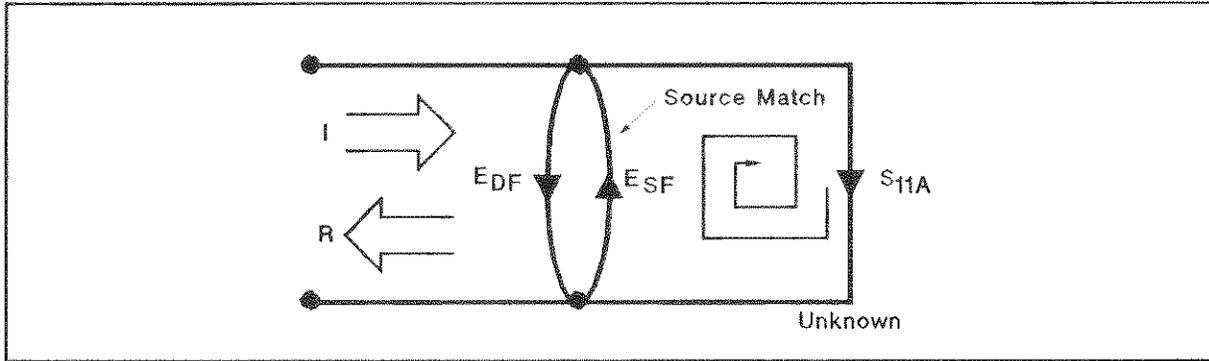

Figure 7-28. Source Match  $E_{SF}$
**Source match error.** Since the measurement system test port is never exactly the characteristic impedance ( $50 \Omega$  or  $75 \Omega$ ), some of the reflected signal is re-reflected off the test port, or other impedance transitions further down the line, and back to the unknown, adding to the original incident signal (I). This effect causes the magnitude and phase of the incident signal to vary as a function of  $S_{11A}$  and frequency. Leveling the source to produce constant (I) reduces this error, but since the source cannot be exactly leveled at the test device input, leveling cannot eliminate all power variations. This re-reflection effect and the resultant incident power variation are caused by the source match error,  $E_{SF}$  (Figure 7-28).